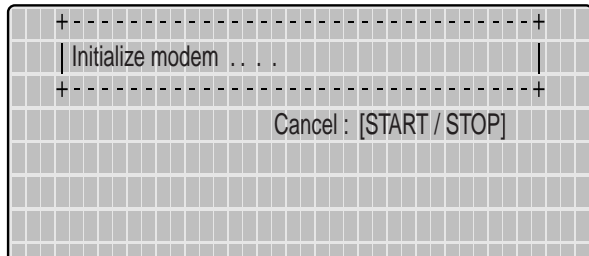

Figure 5-14. Screen display after activation of  and
- Use the key combination  and  to display the screen for receiving ECGs (Figure 5-14). The connected modem is automatically initialized. The procedure can be aborted with  .